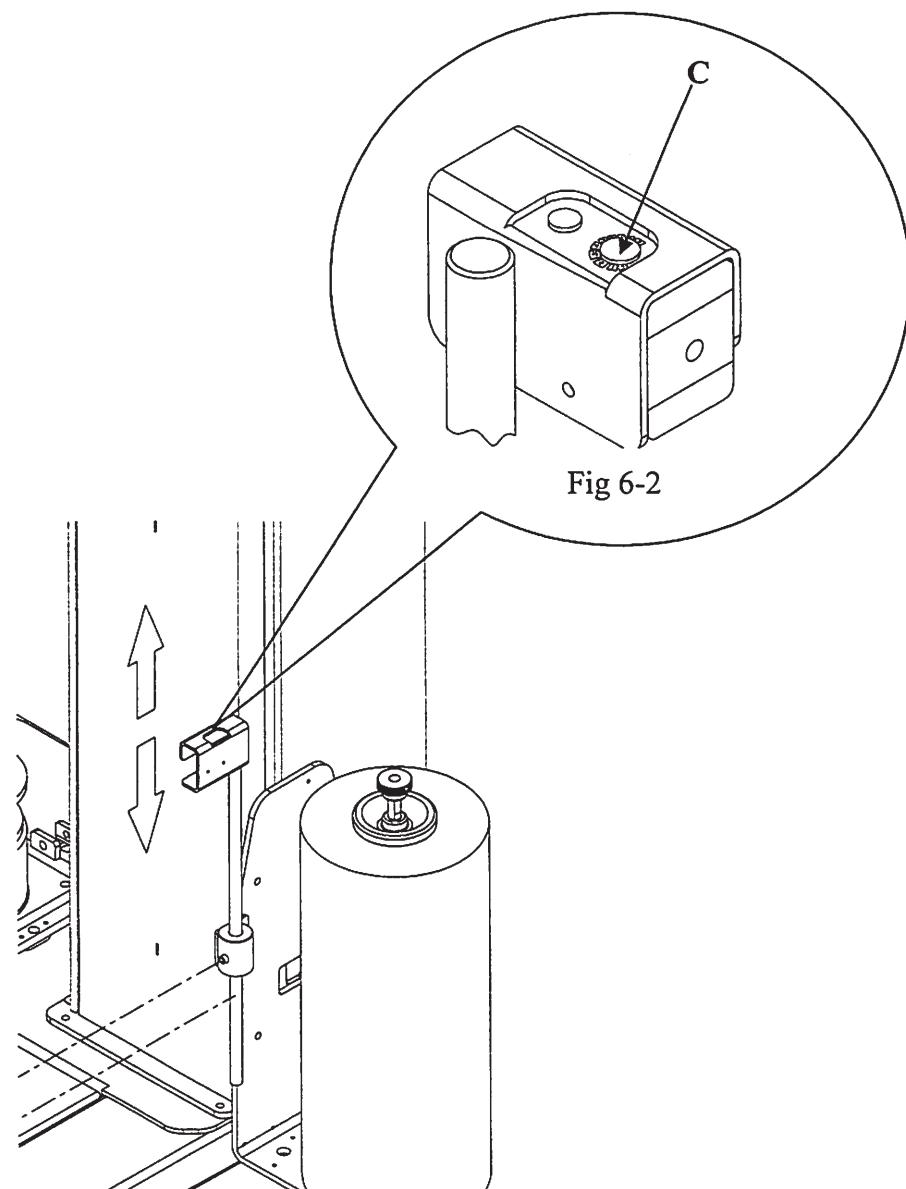

Fig 6-1
PS. Release screw to adjust distance as needed (Fig 6-1, A), adjust to needed distance (Fig 6-1, B).
(1) The distance is 0~9 grade (Fig 6-1, C).
(2) Regularly set on the biggest sensing distance 9(=2M).